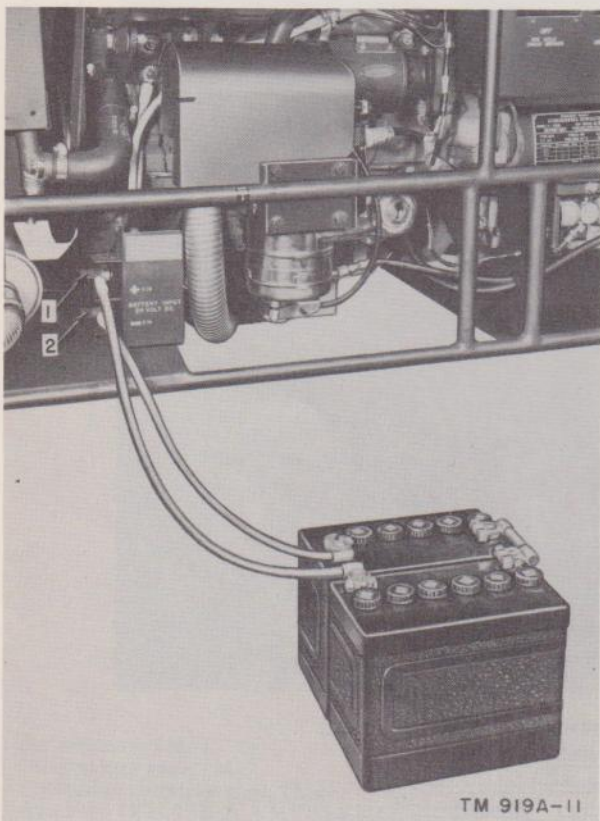

Figure 11. Battery connections.
- (1) Connect one wire of the cable from the stop terminal on the switch to the remote stop terminal on the unit.
- (2) Connect one wire of the cable from the start terminal on the switch to the remote start terminal on the unit.
- (3) Connect the remaining wire from the common terminal on the unit to the center (common) terminal of the switch.
*d. Battery Connections.* Two terminals for connecting the battery cables are located on the left side of the unit. After preparing the batteries for use as instructed in paragraph 17, position the batteries near the unit and connect them as follows: Attach the battery jumper cable from the negative post of one battery to the positive post of the other battery. Connect a cable from the positive (+) terminal (1, fig. 11) on the unit to the battery with the open positive post. Connect a cable from the negative (-) terminal (2) on the unit to the battery with the open negative post. Figure 11 shows the proper battery connections.